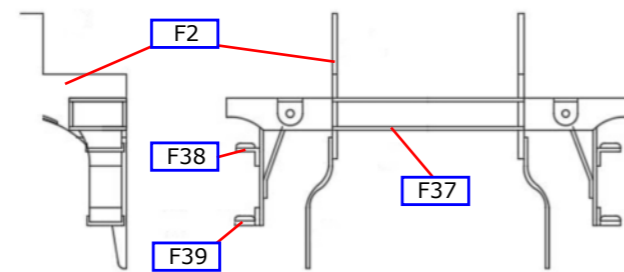

Fig 11. Bufferbeam stay
**Completing the chassis.** Fold the front buffer beam stay (F37) so that it traps the two buffer gaiters (BR26) on the inside and fix to the frames. If early steps are required then remove the backing plates and do not fold down the angled straps. For later steps fold down the backing plates and angled straps as shown in Fig 11 and add the later style steps (F38 & 39). See Short Travel Valves (STV) footplate section for early style step details.